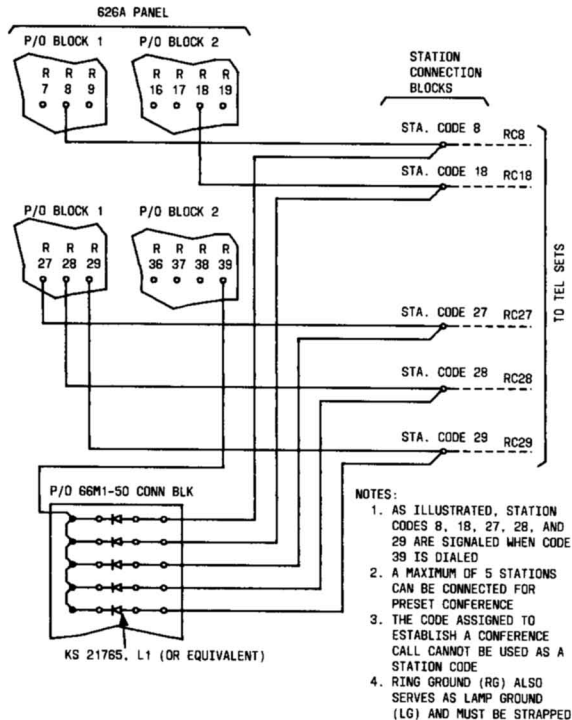

Fig. 16—Typical Preset Conference Arrangement
4.15 To connect preset conference, a lead is strapped from the R () terminal of the designated code to an external 66-type connecting block for distribution, via diodes (5 maximum), to the signaling leads of the selected conference stations. A typical preset conference arrangement is shown in Fig. 16. As illustrated in Fig. 16, stations 8, 18, 27, 28 and 29 are signaled when code 39 is dialed. In this arrangement, code 39 cannot be used as a station code.